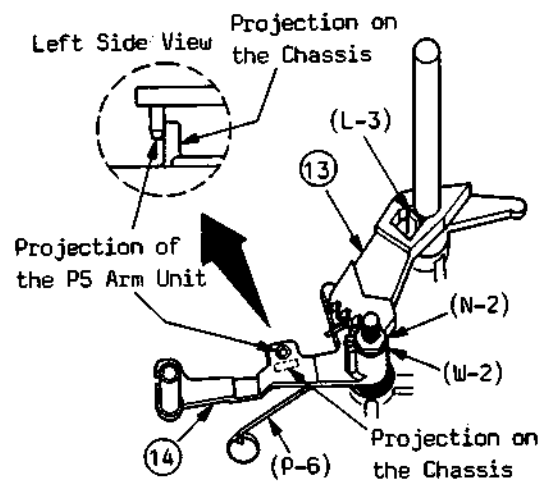

Fig. DM7
3. Install the P5 arm unit so that the projection of the P5 arm unit seats in front of the projection on the chassis as shown in Fig. DM7.